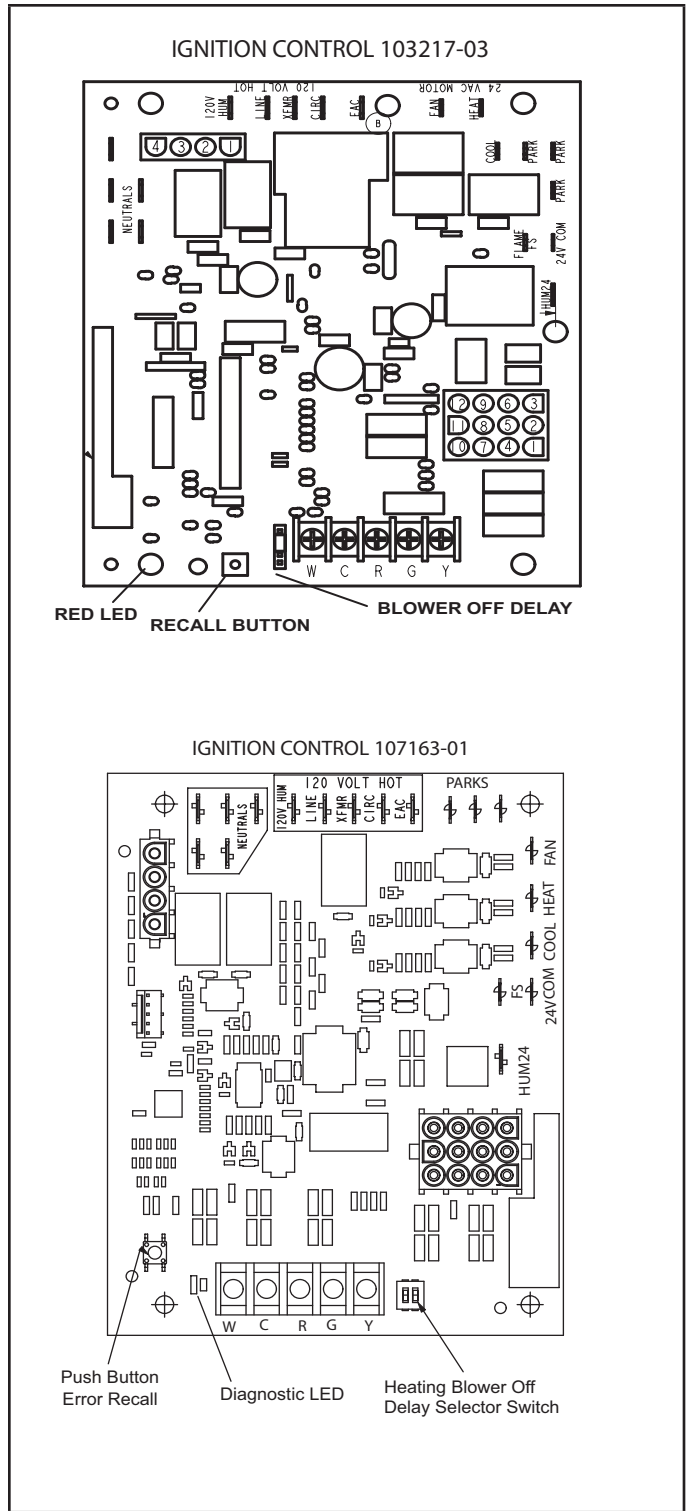

FIGURE 3
The hot surface ignition control system consisting of an integrated control (figure 3 with control terminal designations in tables 1, 2 and 3), sensor and ignitor (figure 6). The integrated control and ignitor work in combination to ensure furnace ignition and ignitor durability. The integrated control, controls all major furnace operations. The integrated control also features a RED LED for troubleshooting and two accessory terminals rated at (1) one amp. See table 4 or 5. for troubleshooting diagnostic codes. The nitride ignitor is made from a non-porous, high strength proprietary ceramic material that provides long life and trouble free maintenance.